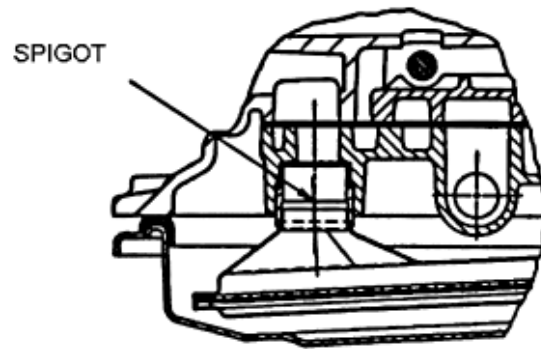

Figure 8.59 Bushing of engine oil filter
- Install the oil filter on the valve carefully. During the installation, the socket must be inclined. Refer to Figure 8.59.